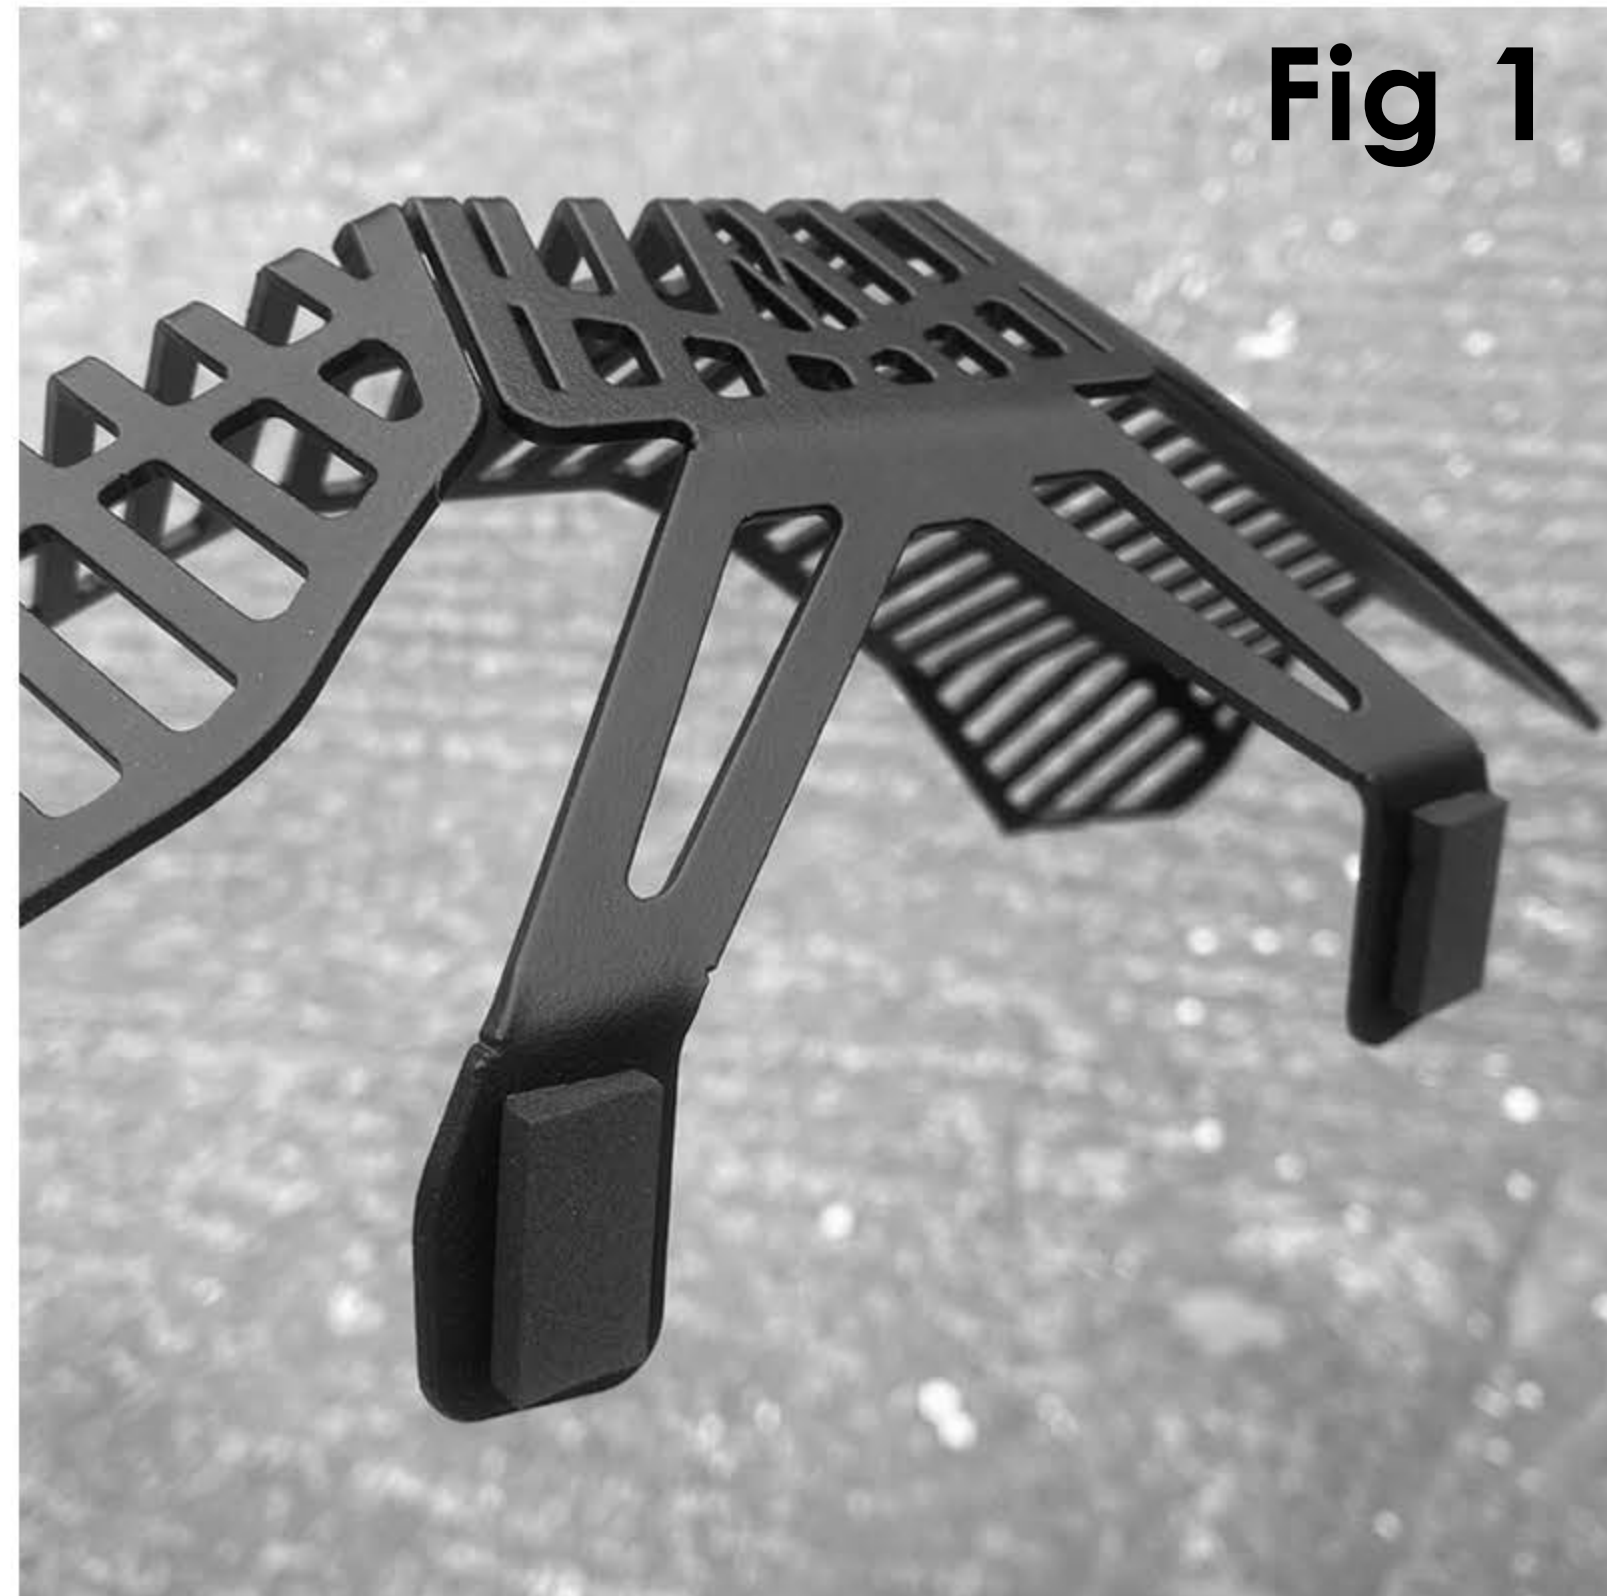

Fig 1
- Attach the foam strips as shown in **Fig 1**.